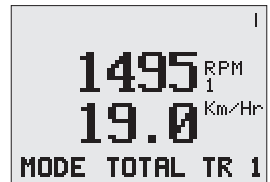

Figure 40: Example of main screen when configured as an Airseeder Surveillance Monitor
9. Main screen should display as described in Figure 40.